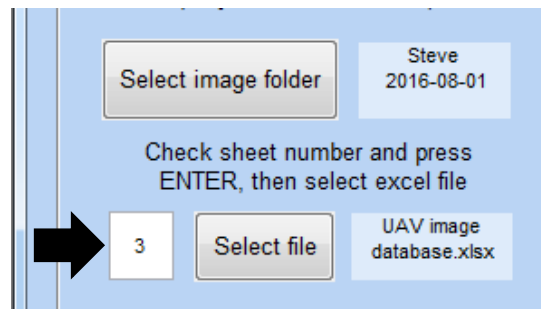

Figure 6. Step 2: select Excel sheet number which corresponds to current day of images then the file.
2. Change the sheet number in the white dialog box (indicated by arrow in figure 6) if the corresponding sheet number for the current working folder is different from the default ('1'). Once you have entered the number press ENTER on the keyboard. In this example the sheet which contains the data for the current folder of images ('Steve 2016-08-01') is the 3rd sheet so 3 is entered in the dialog box. Then click the 'Select file' button to browse to the excel file with image numbers and LIDAR heights (as in figure 1) - the file name will appear in the box next to the button. The file will have to be loaded each time a new image folder is loaded.